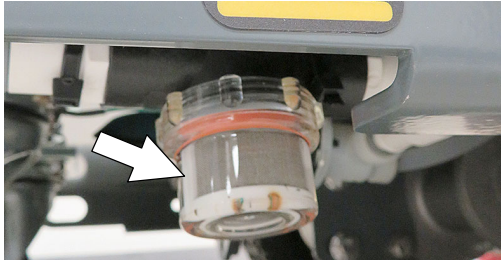

FIG. 148
2. Empty the water from the solution tank filter located under machine. Replace filter (Figure 148).